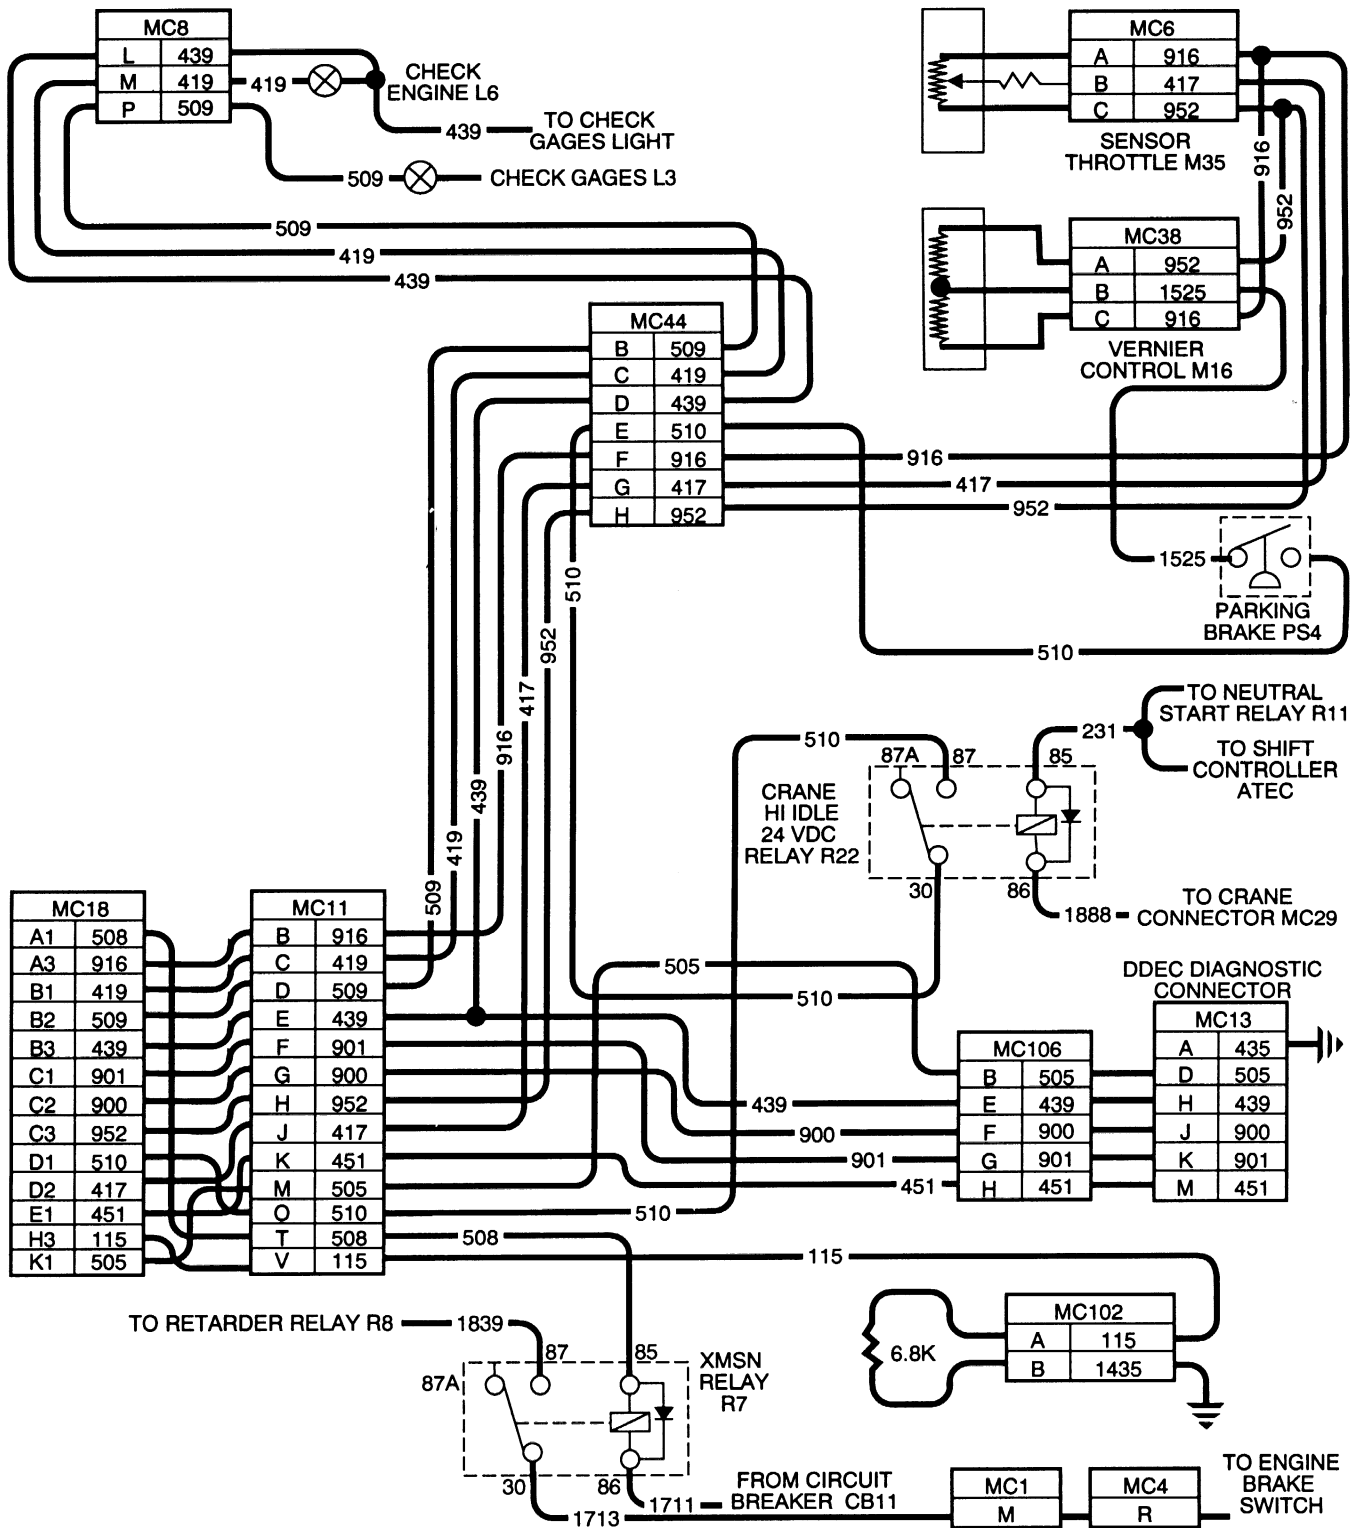

Figure 2-1. DDEC II Vehicle Harness Wiring Schematic
This paragraph covers DDEC II System Troubleshooting. The DDEC II System Fault Index, Table 2-16, lists faults for the DDEC II system of the PLS truck. Refer to schematic Figure 2-1 through 2-4 when performing tests and corrective actions.
- (1) Turn ON ENGINE switch (TM 9-2320-364-10) and observe CEL.
- (a) If CEL lights erratically or intermittently, turn OFF ENGINE switch and repair wire 451 (see schematic Fig 2-1) or notify DS Maintenance.
- (b) If CEL lights for five seconds and goes off, go to Step (2) below.
- (2) Start engine.
- (3) Increase engine speed to 2100 rpm and observe CEL.
- (4) Turn OFF ENGINE switch.
- (1) Loosen screw and disconnect vehicle harness connector MC18 from DDEC ECM.
- (2) Turn ON ENGINE switch (TM 9-2320-364-10) and observe CEL.
- (a) If CEL stays on, turn OFF ENGINE switch, and repair wire 419 (see schematic Fig 2-1) or notify DS Maintenance.
- (3) Turn OFF ENGINE switch.